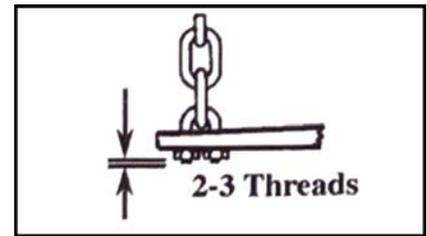

Figure 4: Let 2-3 threads of u-bolt through the bottom of each lock nut.
•Assemble the lift chains ⑦ to the tapered ends of each spring bar using the 3/8" u-bolts ⑧, 3/8" flatwashers ⑨, and the 3/8" hex locknuts ⑩. Let two or three threads of the u-bolts extend out through the bottom of each locknut. The chain must be free to move in the u-bolt (see Figure 4).